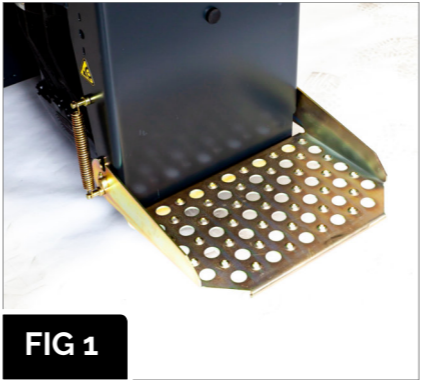

FIG 1
- ▶ In the lowered position the truck can be operated while standing on the platform (fig 1). **Never walk behind the machine when the operators platform is in the lowered position (fig 1).**